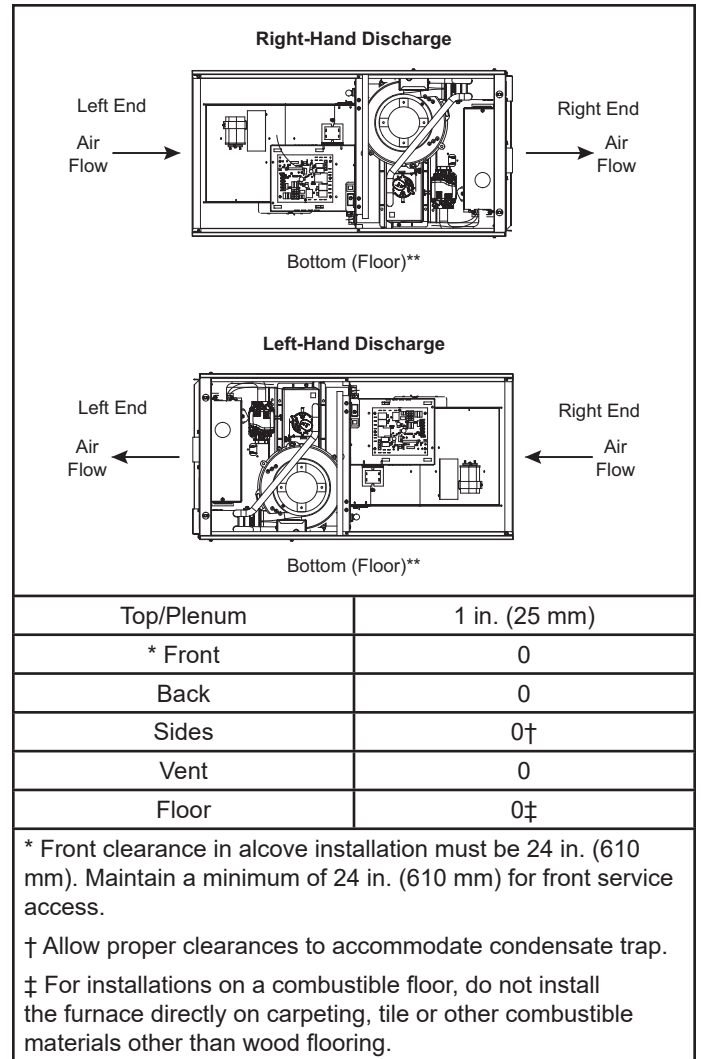

Figure 18. Installation Clearances Horizontal Applications
Refer to Figure 18 for clearances in horizontal applications.
- 1. Select location for unit keeping in mind service and other necessary clearances. See Figure 18.